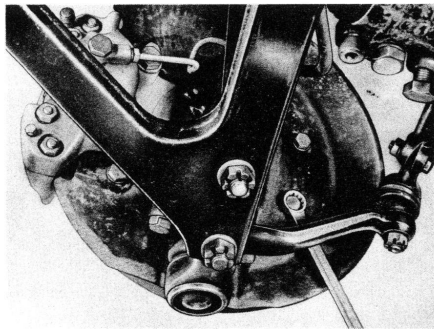

Fig. 3
13. Torque cover shroud retaining bolts to 2, 5 mkp (18 lb/ft) (see Fig. 3).